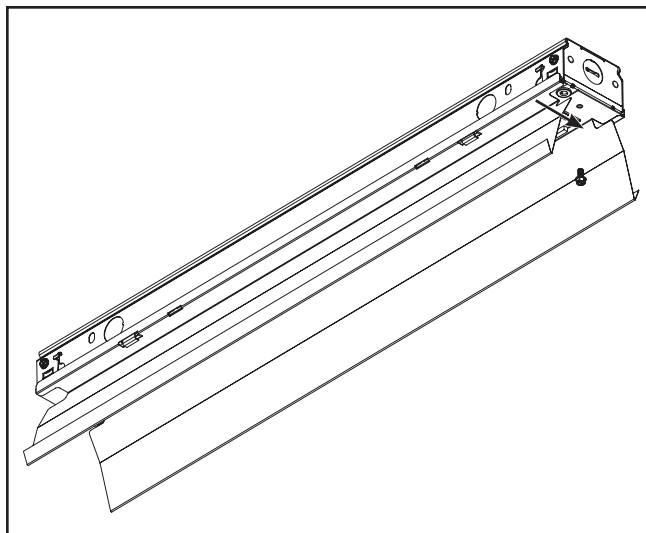

Figure 4.
4. Secure channel cover to base fixture using the hardware provided. (Figure 4.)